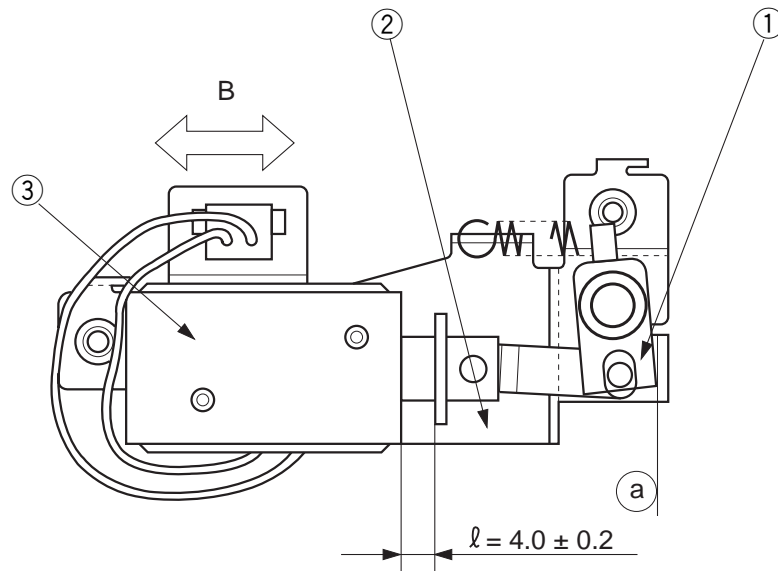

Figure 4-323
Make adjustments by loosening the two screws used to fix the solenoid ③ in place and moving the solenoid ③ into the direction of arrow B so that l in Figure 4-323 is 4.0 ± 0.2 mm when the joint ① is butted against point a of the solenoid support ②.